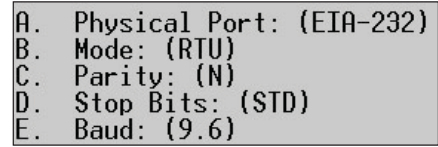

Figure 7: BCM-MDBS Modbus settings.
- c. Under Modbus protocol, use the settings shown in Figure 7.